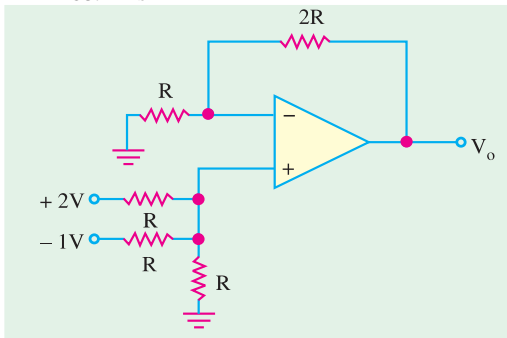

Fig. 68.42
10. The output voltage of the circuit shown in Fig. 68.42 is